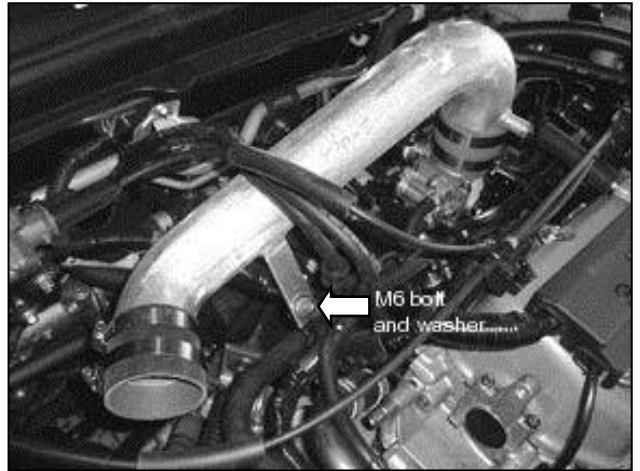

Fig. 10
- f. Thread supplied washer and bolt through the intake pipe mounting tab into the factory intake resonator mounting bracket. Do not tighten. **(Fig. 10)**